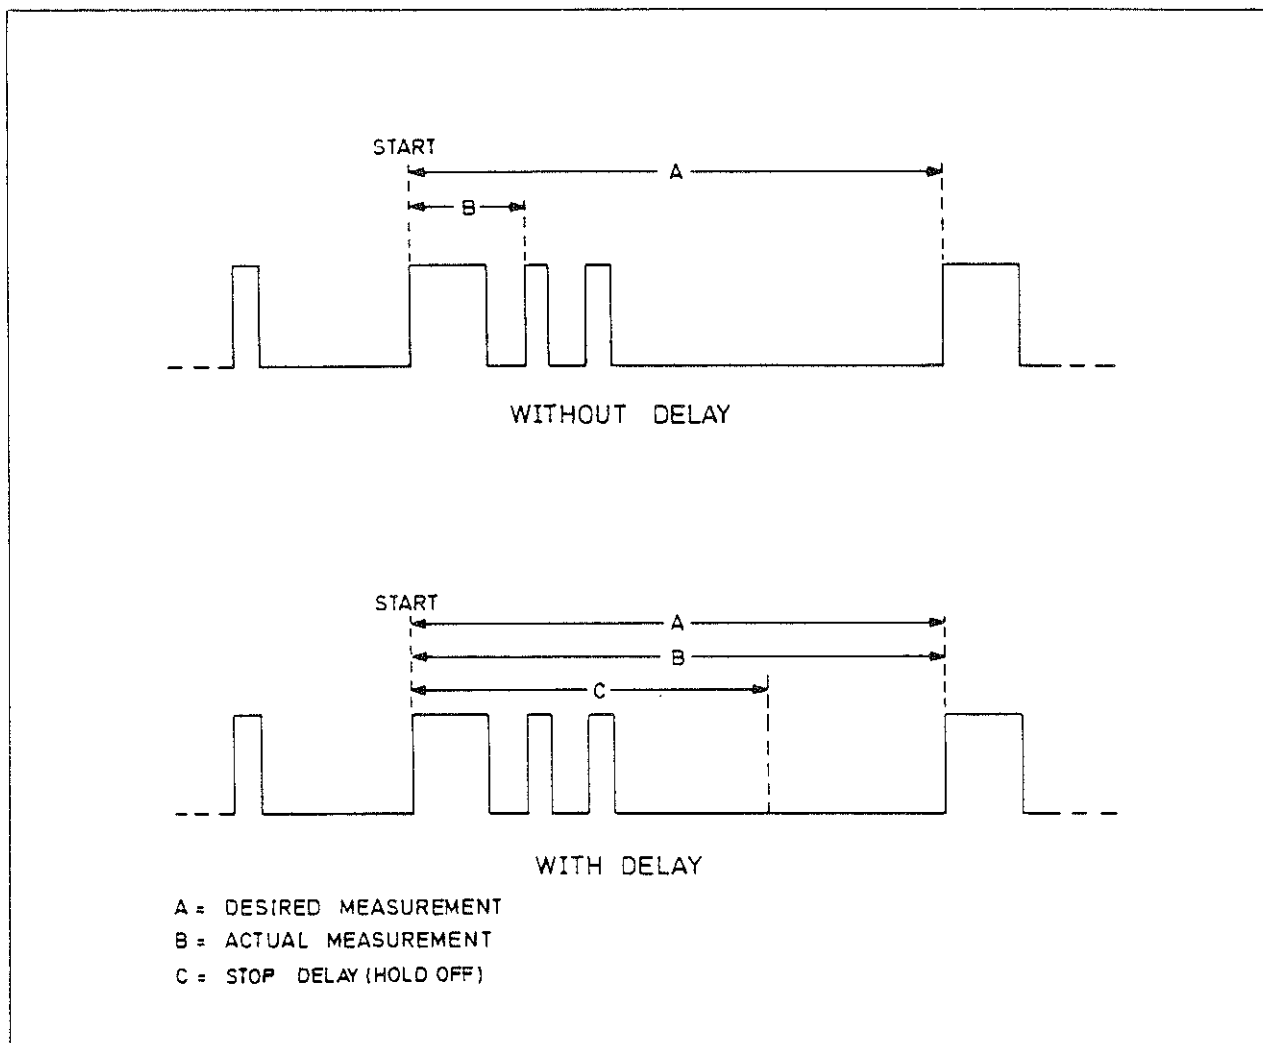

Figure 3.1 - Use of Stop Circuit Delay
**3.7.1.2** The delay can be used to prevent the stop circuit from being triggered prematurely by spurious signals such as those resulting from relay contact bounce. The principle of stop circuit delay is shown in Figure 3.1.